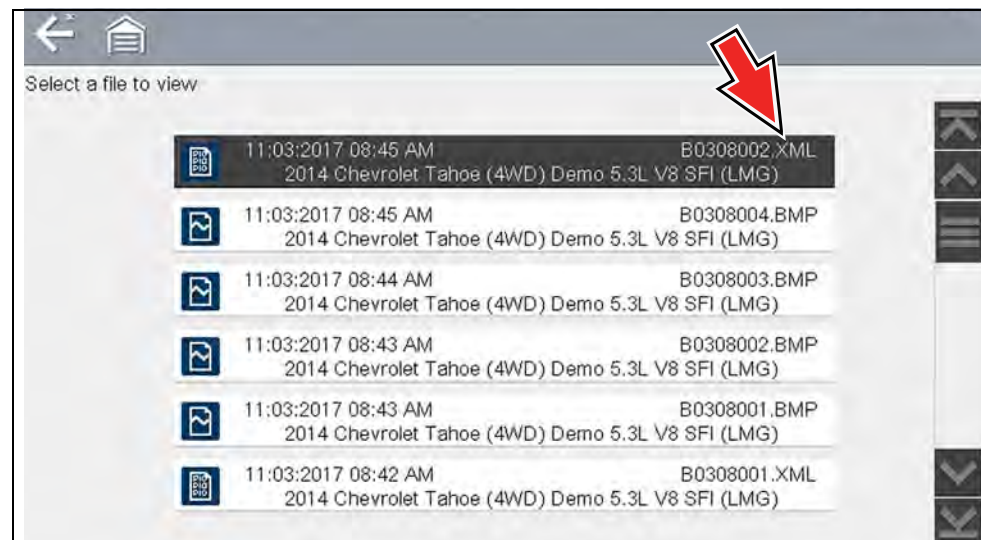

Figure 12-3 Typical - Code Results (.XML) file
When code scan or single system code results are saved, they are saved in (.XML) file format (Figure 12-3).
3. Select the code scan report .XML file from the list to view the file (Figure 12-3).